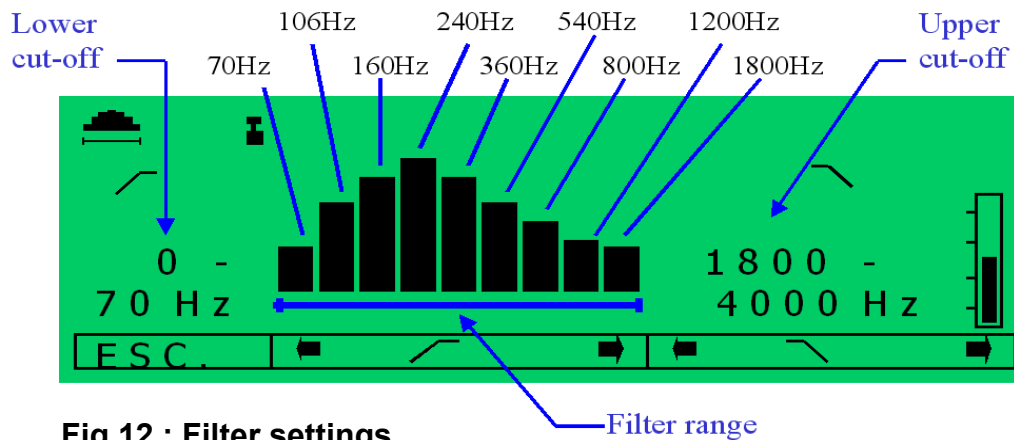

Fig 12 : Filter settings
1. On the Filter Selection screen, a horizontal bar will be displayed beneath the selected filter or filters (Figure 12).
1. Select all available filters and survey the system for any leak sound. When potential leak sound is detected, continue pre-location with all filters active until the loudest area of sound is located. Go to the Filter Selection screen (Figure 12) and see what specific frequency (or frequencies) is most active.